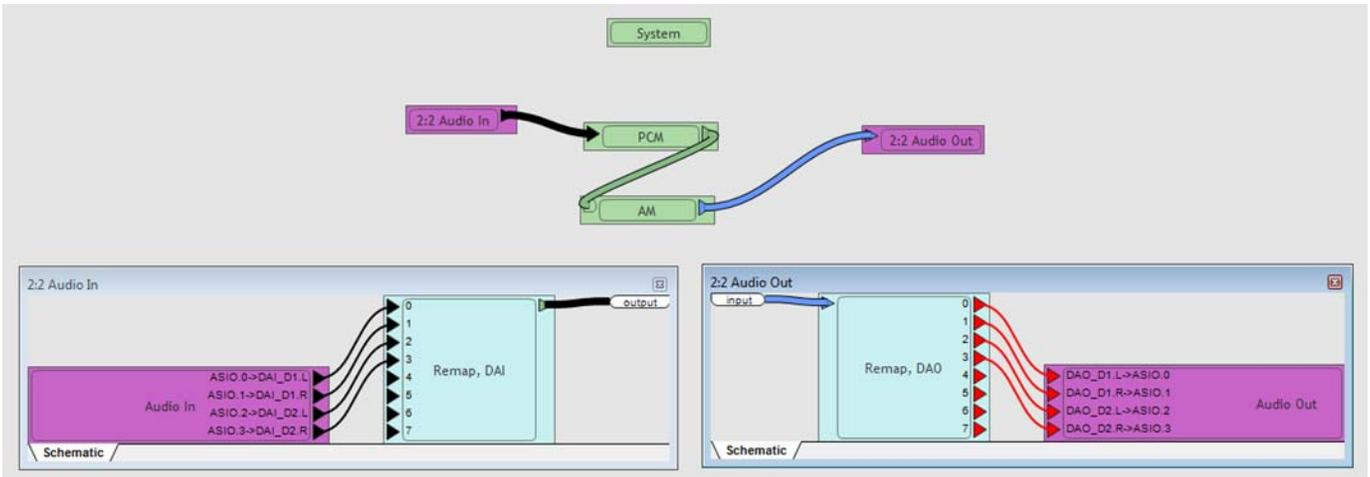

Figure 5-3. S/PDIF Pass-thru
- An S/PDIF-only pass-thru project is shown in Fig. 5-3.